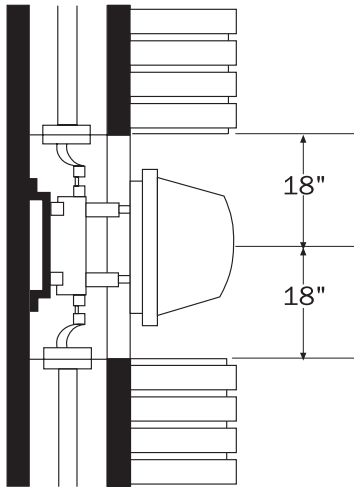

Figure D-1.
- If a recessed meter base is installed, a clearance of 18 inches is required from the meter center to the closest portion of the wall (see Figure D-1).